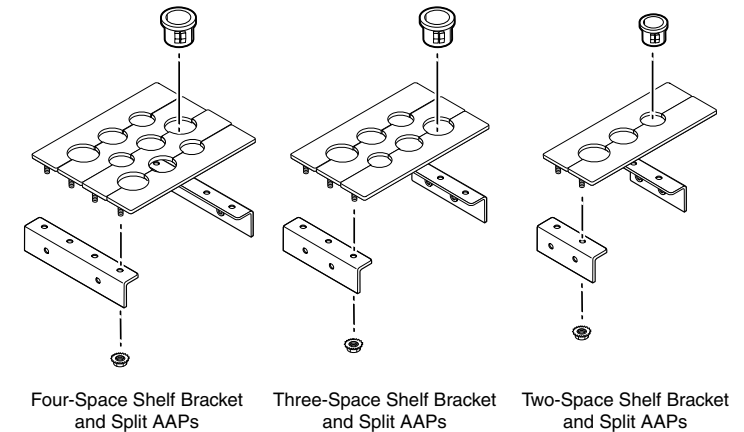

Figure 2-4 — Shelf brackets
Each shipped AAP shelf assembly consists of a set of shelf brackets and a number of cable pass-through (split) AAPs. Depending on the Cable Cubby model, each set of shelf brackets supports either two, three, or four single-space AAPs (figure 2-4).
1. Remove a segment of a set of split AAPs by unscrewing the nuts on the underside of the bracket that fastens the plate to the shelf (CC 200) or shelf bracket (CC300, 600, or 800). See figure 2-4, on page 2-7.
1. Remove the set of split AAPs to be replaced by unscrewing the nuts on the underside the shelf (CC 200) or shelf bracket (CC 300, 600, and 800) that fasten the plates to the bracket (figure 2-4, on page 2-7).